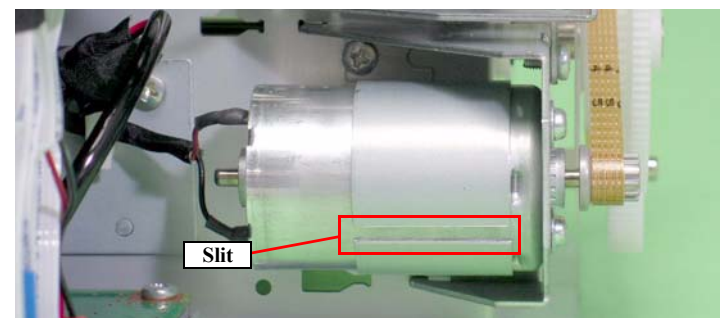

Figure 4-135. Installing the PF Motor
- Face the slit of the PF Motor as shown in Figure 4-135.